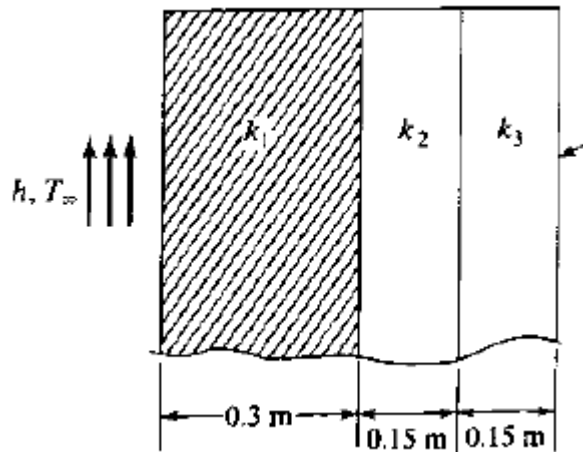

Fig. 7.
7. A composite wall consists of three materials, as shown in the Fig. 7. The outer temperature is $T_0 = 20^\circ \text{C}$. Convection heat transfer takes place on the inner surface of the wall with $T_\infty = 800^\circ \text{C}$ and $h = 25 \text{ W/m}^2 \cdot ^\circ \text{C}$. Determine the temperature distribution, if $K_1 = 20 \text{ W/m} \cdot ^\circ \text{C}$, $K_2 = 30 \text{ W/m} \cdot ^\circ \text{C}$, $K_3 = 50 \text{ W/m} \cdot ^\circ \text{C}$.